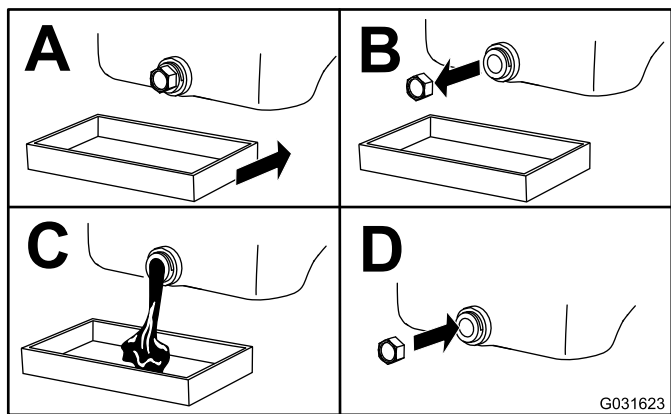

Figure 51
3. Change the engine oil as shown in Figure 51.